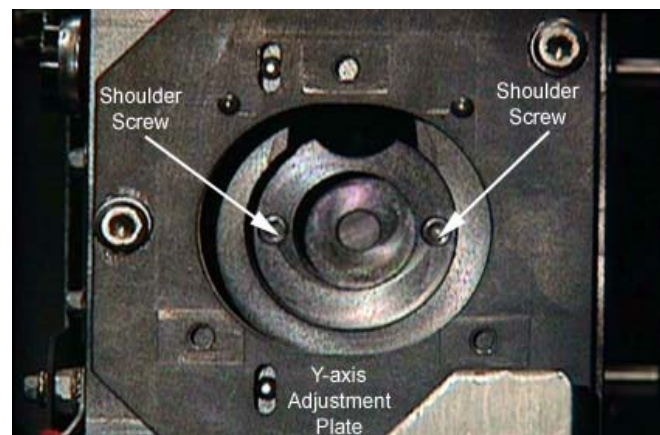

Figure 5 - Location of Beamsplitter Shoulder Screws
10. Use a 5/64-inch Allen wrench to remove the two shoulder screws that secure the mask and beamsplitter to the lamp housing (Figure 5).